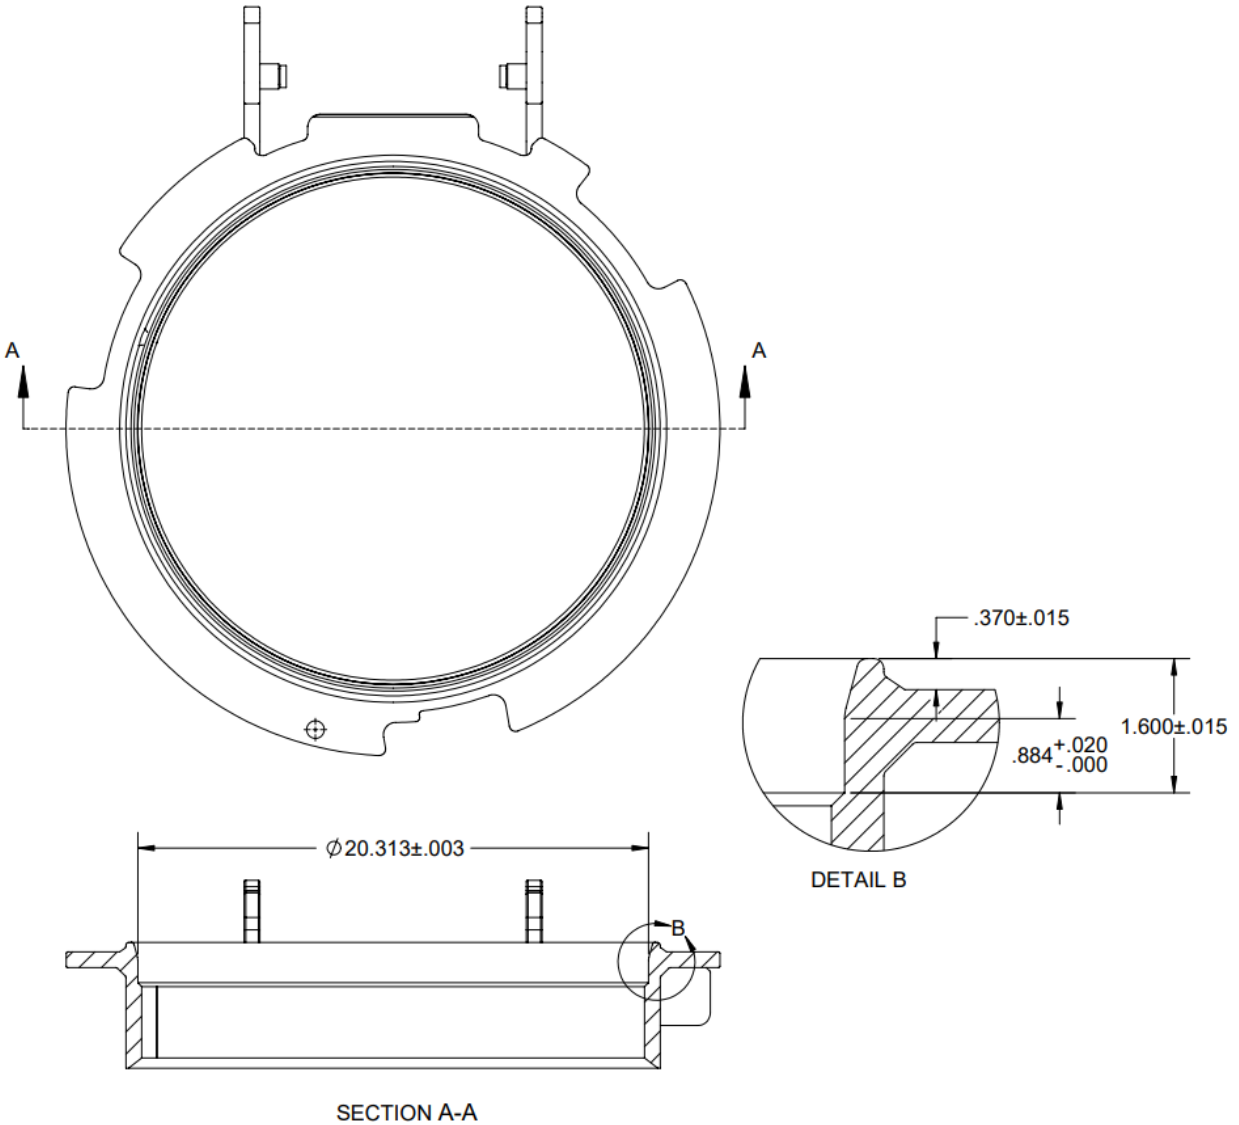

Figure 2- Nozzle Incoming Inspection Dimensions
- ii. See figure 2 for inspection dimensions.